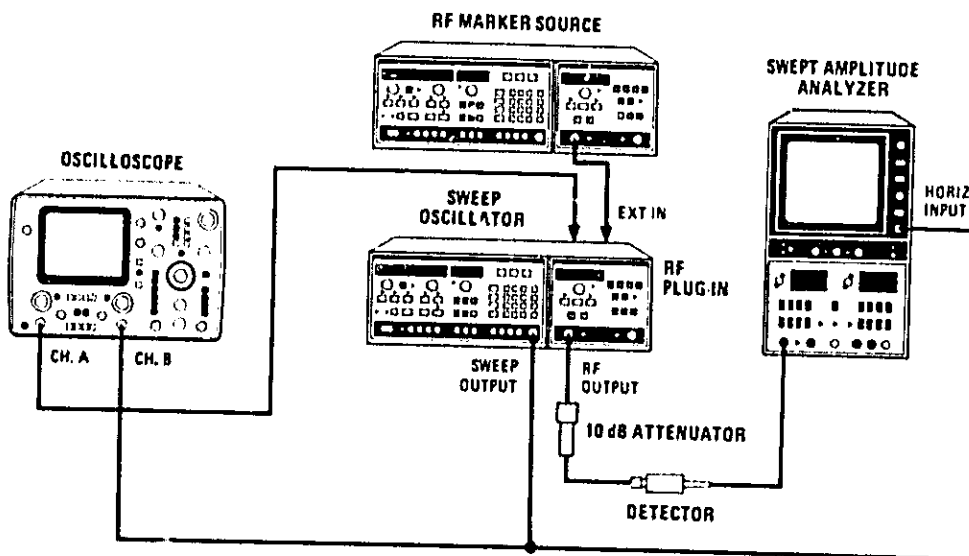

Figure 5-39. External Marker Adjustments Test Setup
1. Connect equipment as shown in Figure 5-39. Set external marker source to a selected marker frequency. Set power level between -10 and $+10$ dBm.